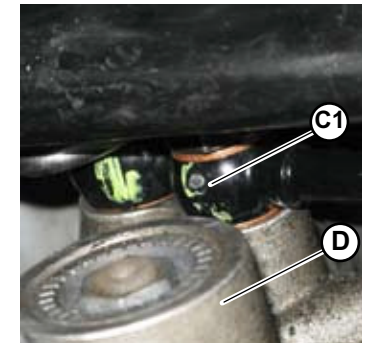

Fig.17
3. Disconnect the **C1** power steering circuit central delivery pipe from the rack (**D-Fig.17**).